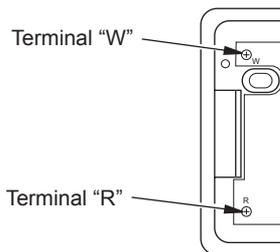

Figure 33 - Thermostat Base Terminals "W" and "R"
7. Connect one bare wire end to each terminal ("W" and "R") of the thermostat base (see Figure 33).